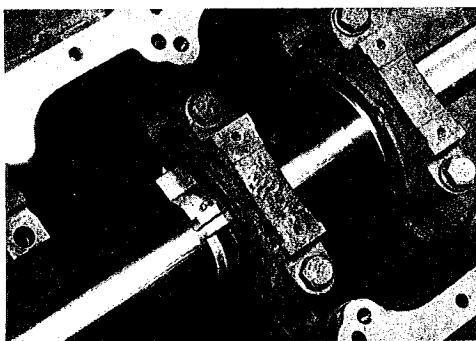

Fig 10 Cutter Holder Attached to Boring Bar
3. After following the instructions for "Setting the Cutter to Bore Size" wipe the boring bar and the cutter holder clean and position the cutter holder on the boring bar next to the journal to be cut (Note direction of travel). To assemble the cutter holder place the lower half of the cutter holder over the socket head cap screws, then slip the halves together and tighten screws. (See Fig 10)